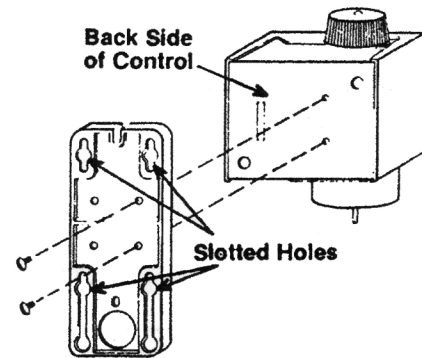
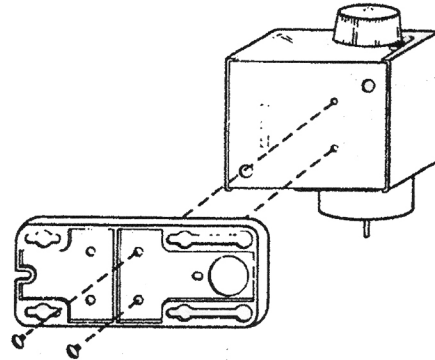

Figure 1 Vertical Mounting
Figure 2 Horizontal Mounting
The bracket can be mounted either vertically or horizontally (see Figure 1 Vertical Mounting and Figure 2 Horizontal Mounting). When vertical mounting is desired the bracket should be installed with the knock-out hole at the bottom of the control. This will insure proper alignment with mounting patterns of other controls and will allow for the use of the knock-out hole for wiring in flush mounted installations.
2. With the bracket attached, mount the control to a wall or any flat surface using a combination of any two or more of the six slotted holes and the one open slot in the bracket (see Figure 1 Vertical Mounting). Replacement of a narrower control is made easy by aligning some or all of the existing mounting holes with those of the bracket.